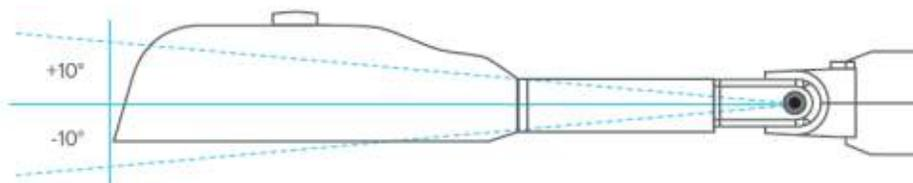

Figure 2: Acceptable mounting bracket tilt angle for LUNA qualification.
- The mounting structures must explicitly address if they are tiltable/aimable, and if so, what the maximum tilt angle is. Drawings or photographs are required. For example, see Figure 2 on page 21 of the LUNA Technical Requirements: